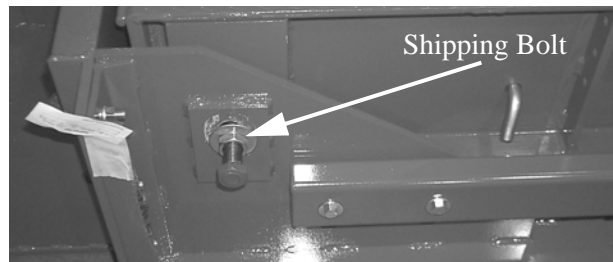

Figure 2-5. Weighbridge Shipping Bolts
1. Back off shipping bolts located on ends of weighbridges (four for each self-contained module) until each bolt is no longer inserted in the scale (see Figure 2-5).
5. Install shipping bolts on end of modules (see Figure 2-5 on page 5).